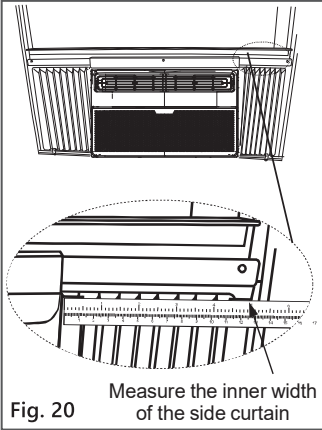

Fig. 20
- A. After the unit is installed in the window, measure the inner width of the side curtain as shown (Fig. 20).